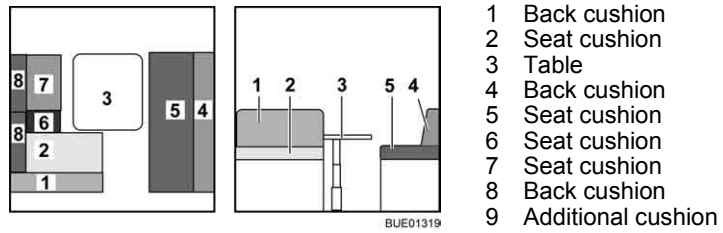

Fig. 145 Prior to conversion
- Convert the table (Fig. 145,3) to a bed foundation (see section 6.10).
- Remove the back cushions (Fig. 145,1 and 8) and lay them aside.